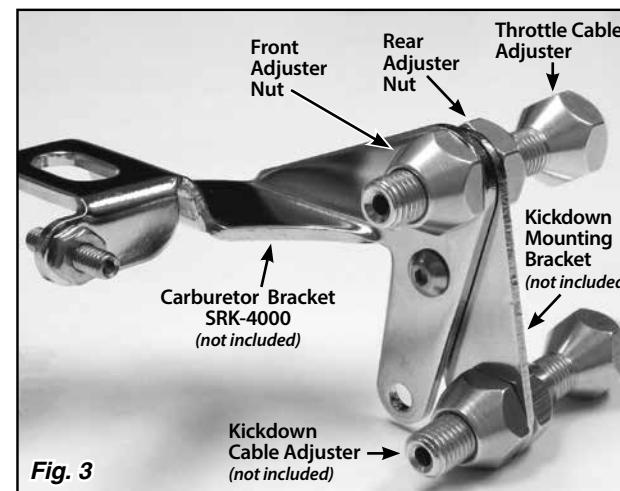

Fig. 3
Step 5: Remove the front adjuster nut from the throttle cable adjuster and insert the throttle cable adjuster into the Carburetor Bracket. (**NOTE:** If a Lokar Kickdown Kit is being used, install the kickdown mounting bracket onto the back side of the Carburetor Bracket first.) Then, position the rear adjuster nut so that the threaded part of the throttle cable adjuster is approximately centered in the Carburetor Bracket. Reinstall the front adjuster nut. **Fig. 3**